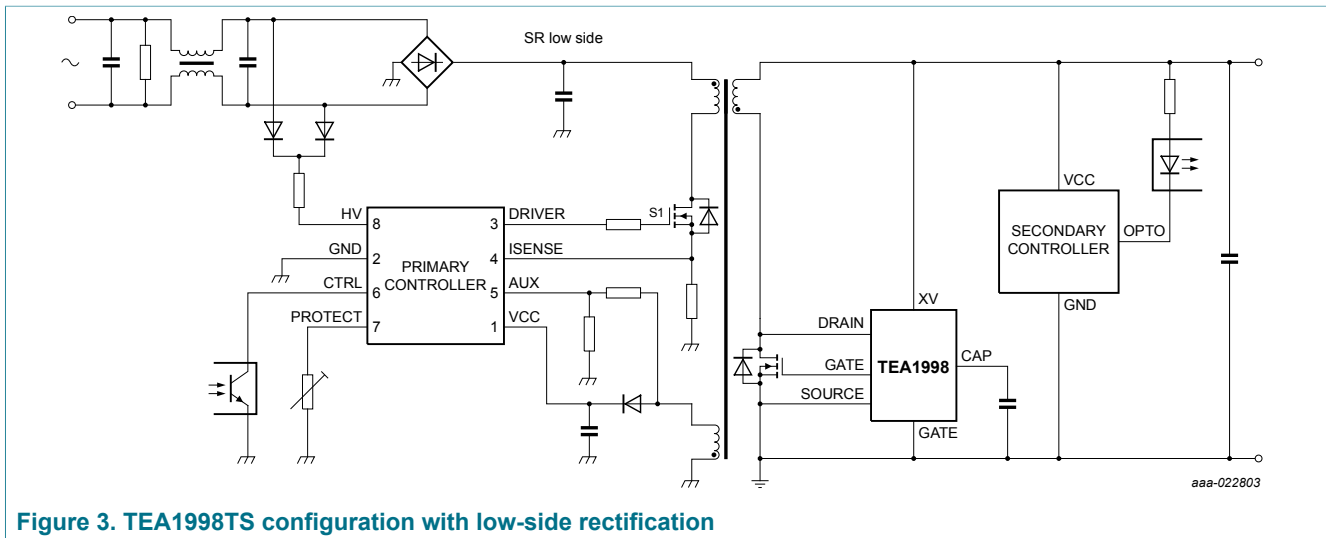
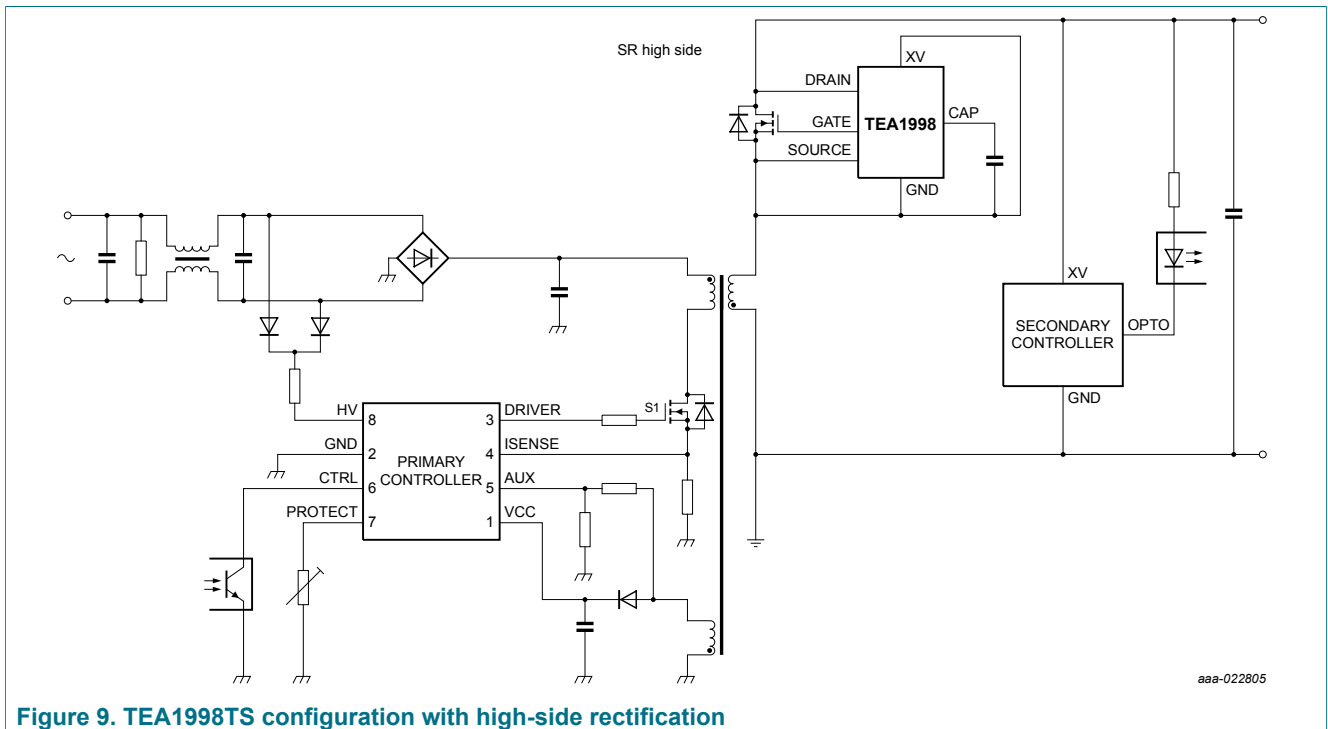

Figure 3. TEA198TS configuration with low-side rectification
Figure 9. TEA1998TS configuration with high-side rectification
The TEA198TS is a controller IC for Synchronous Rectification (SR) in flyback applications. It can drive the external synchronous rectifier MOSFET for the rectification of the voltage on the secondary winding of the transformer. Figure 3 shows a typical configuration.
A flyback switched mode power supply with the TEA1998TS consists of a primary side controller with a primary switch, a transformer, and an output stage. To obtain low conduction loss rectification, an SR MOSFET is used in the output stage. The SR MOSFET can be placed low-side (see Figure 3) or can be placed high-side (see Figure 9). In the high-side application, the TEA1998TS is self-supplying. The capacitor on the CAP pin supplies the TEA1998TS. When the drain voltage is positive, it is charged via the DRAIN pin.